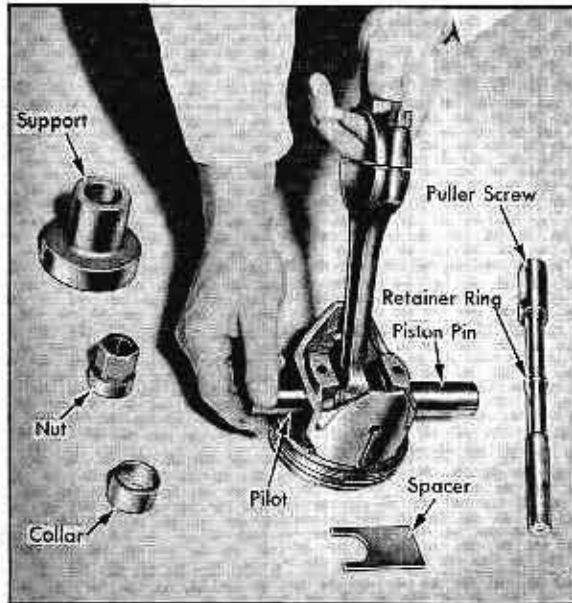

Fig. 10-21 Installing Pilot and Pin in Piston and Rod
3. Install pilot through piston and rod, Fig. 10-21.
4. Lubricate piston pin and insert it in piston pin hole on side of piston marked "REAR" Fig. 10-21.